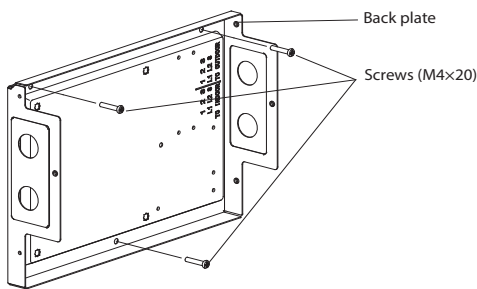

Fig. 3 – 24V Interface Kit
2. Mount the 24V INTERFACE KIT horizontally (see Fig. 3), by fastening the back plate to the wall with 3 screws (M4x20) and anchors.